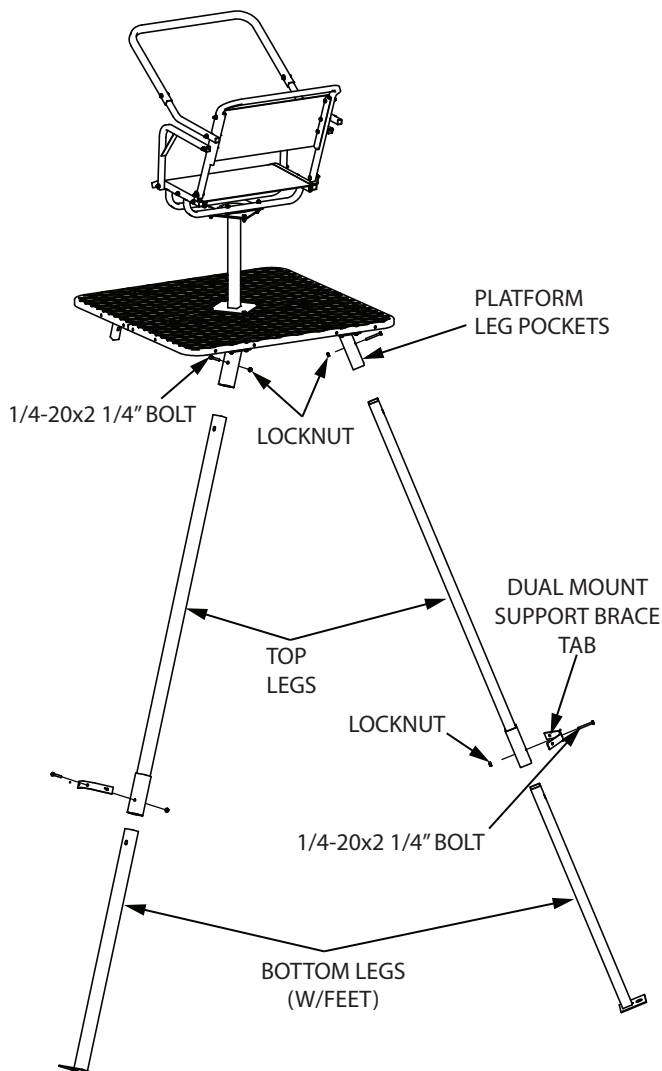

FIGURE 10
15. Insert the (2) top legs (TP145) into the leg pockets already mounted to platform and secure using (2) provided 1/4-20 x 2-1/4" bolts and locknuts. **SEE FIGURE 10**
16. Insert the bottom legs with feet (TP147) into the top legs. Attach (2) dual mount support brace tabs to each joint location of the leg assemblies and secure those locations using (2) provided 1/4-20 x 2-1/4" bolts and locknuts. **SEE FIGURE 10**